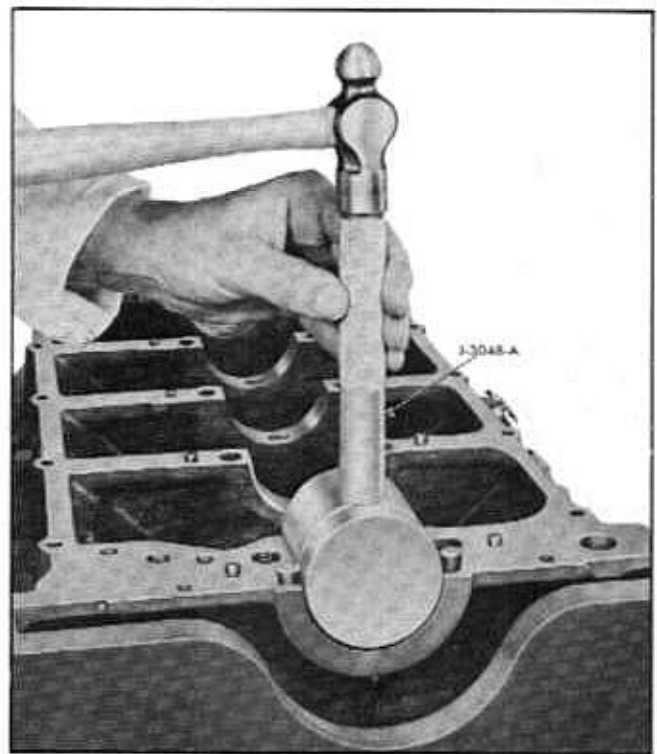

Fig. 6-73 Compressing Seal in Block
- a. Place seal in groove in block and pack tightly with hammer and tool J-3048-A (Fig. 6-73).